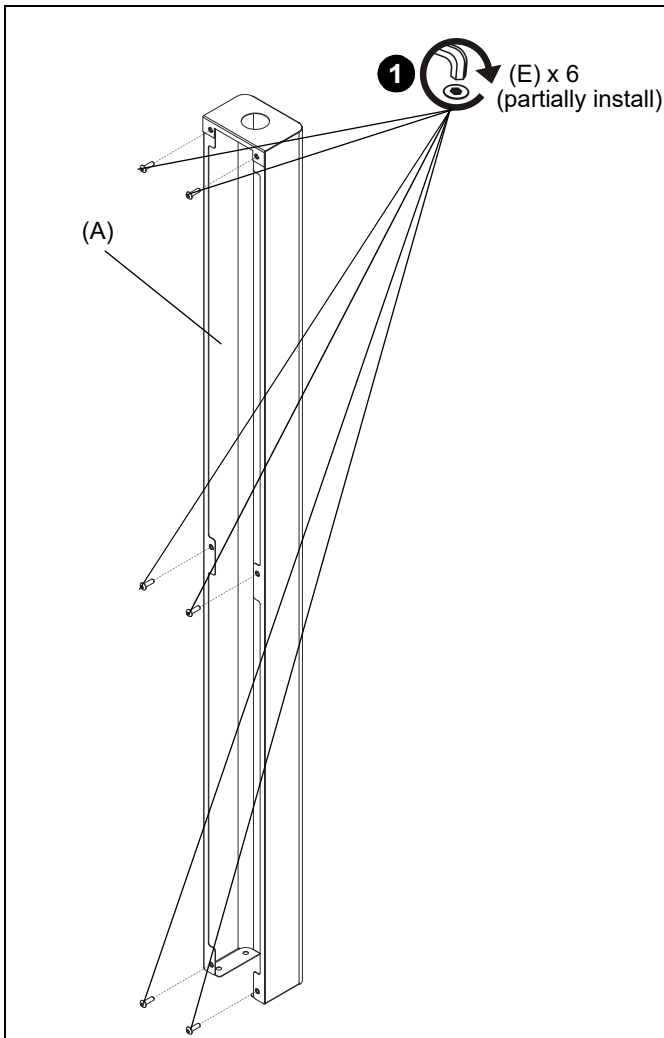

Figure 1
1. Partially install six #10-24 x 5/8" button head cap screws (E) into column (A). (See Figure 1)